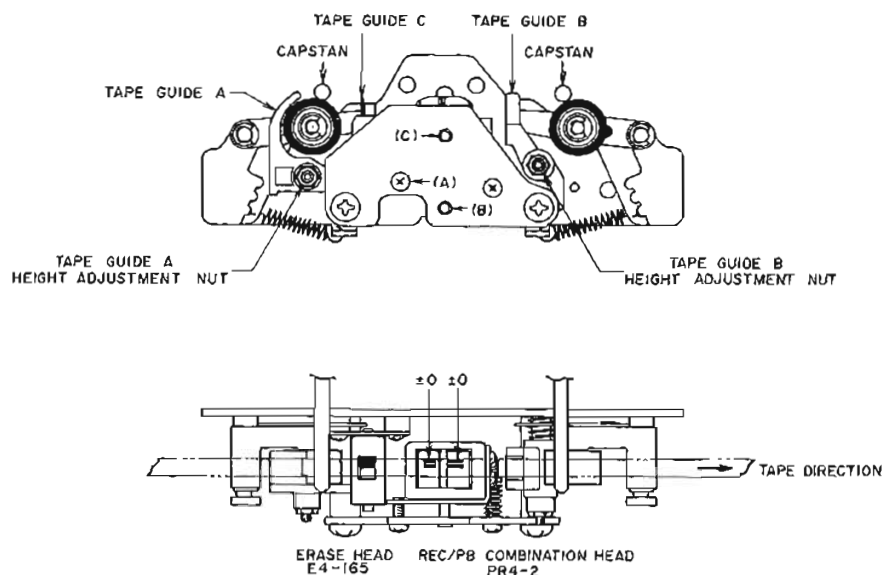
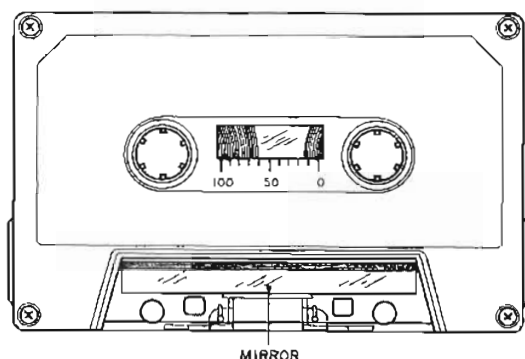

Fig. 11
Fig. 12
(See Fig. 11 and Fig. 12)
- 1) When using an ordinary cassette, the tape guides and heads, etc. are not visible. As shown in Fig. 12, use a cassette tape from which part of the cassette case has been cut out and a mirror installed for easy visibility of the head area when making tape guide height adjustment.
- 2) At playback mode, using erase head tape guide shown in Fig. 11 as standard for height, adjust tape guide A and tape guide B height with tape guide height adjustment nut so that the tape runs smoothly and does not catch on the tape guides.
(See Fig. 11)
- 2) As shown in Fig. 11, adjust head height with screws (A) (B) and (C) until the upper edge of the tape is the same height as the upper edge of the left channel REC/PB Comb. Head core.
3. AZIMUTH ALIGNMENT ADJUSTMENT OF RECORDING/PLAYBACK COMBINATION HEAD (See Fig. 11)
- 1) Playback a 10 kHz pre-recorded cassette azimuth alignment test tape and adjust screw (A) to obtain maximum output on both channels.
- 4) Set Monitor Switch to TAPE position and adjust screw (A) shown in Fig. 11 to obtain maximum output on both left and right channels.
- d. Supply a 5 kHz signal to terminal (13) shown in Fig. 11 and obtain a -20 dBm line output level.